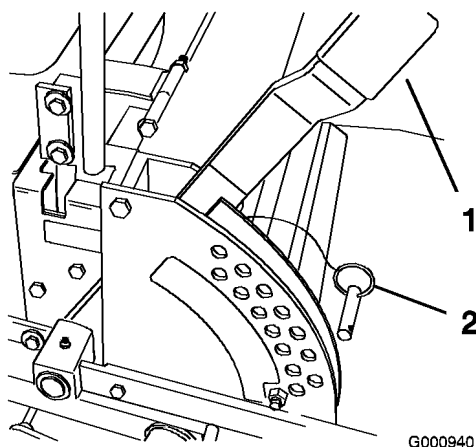

Figure 19
1. Raise the height-of-cut lever to the transport position (also the 5 inch (127 mm) cutting height position) (Figure 19).
2. To adjust, remove the clevis pin from the height-of-cut bracket (Figure 19).
3. Select a hole in the height-of-cut bracket corresponding to the height-of-cut desired and, insert the clevis pin (Figure 19).